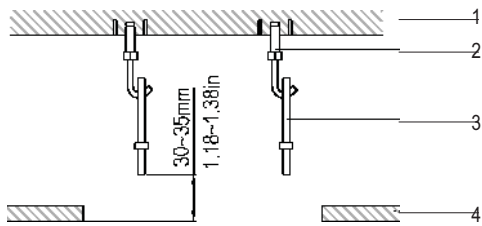

Fig. 10 – Installation Clearances
- b. Adjust the clearance from the ceiling before proceeding further. For an installation example, see Fig. 10.